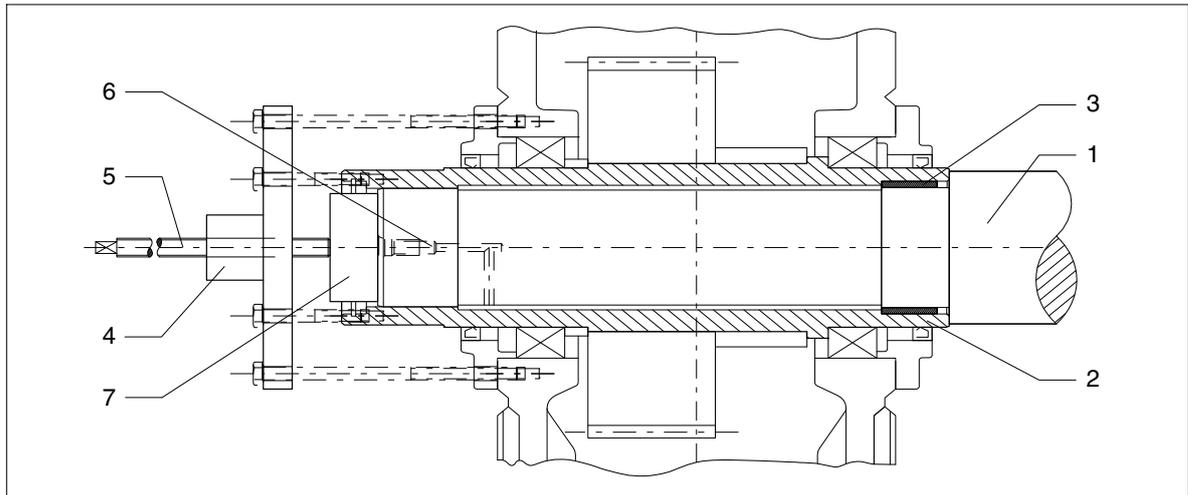

Fig. 43: Hollow shaft with shrink disk, demounting with hydraulic lifting unit
- flush position of the inner ring (3) in relation to outer ring (4)
- If frictional corrosion has occurred on the seating surfaces, inject rust-releasing or other agent (e.g. with a pump) into the bore cavity to reach the seats in order to facilitate forcing off. The rust releaser can be injected through a bore in the machine shaft (see fig. 43).
- When the rust-releasing agent has taken effect, pull the gear unit off with the device (see figures 43 and/or 44).
If the counterforce is provided not only by the hollow shaft, but also by the housing, as shown in fig. 43, the forces used must not exceed the values given in the following table.